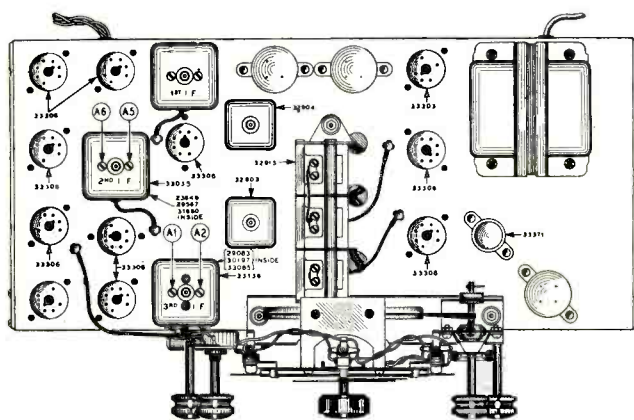

Fig. 3. Tube and i-f trimmer locations.
(D) Tune acoustic filter condenser (A23) Fig. 3 until a *minimum* output is indicated on the output meter.